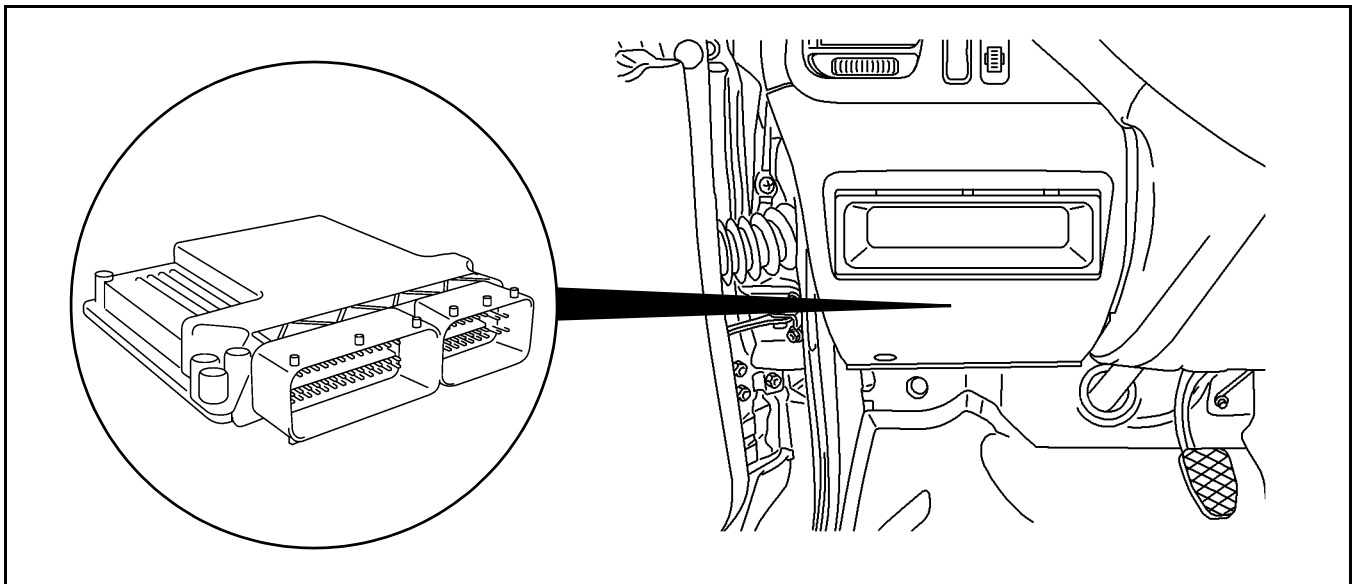

Figure 14 Location of the Engine Control Module (ECM)
14. Locate the engine control module (ECM) below the left knee protection next to the steering column (Figure 14). You will need to run a wire from the ECM to the constant rpm switch. Pull the ECM down at the connection side until it releases. Pull it forward and out of the mounting bracket.